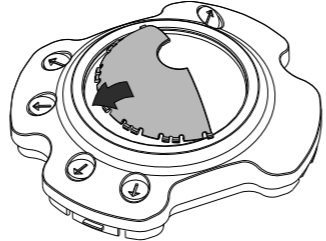

FIG.17
- 4.3.3 Fixing lens shield: There is slot around the lens and insert the lens shield into slot (See FIG.17).